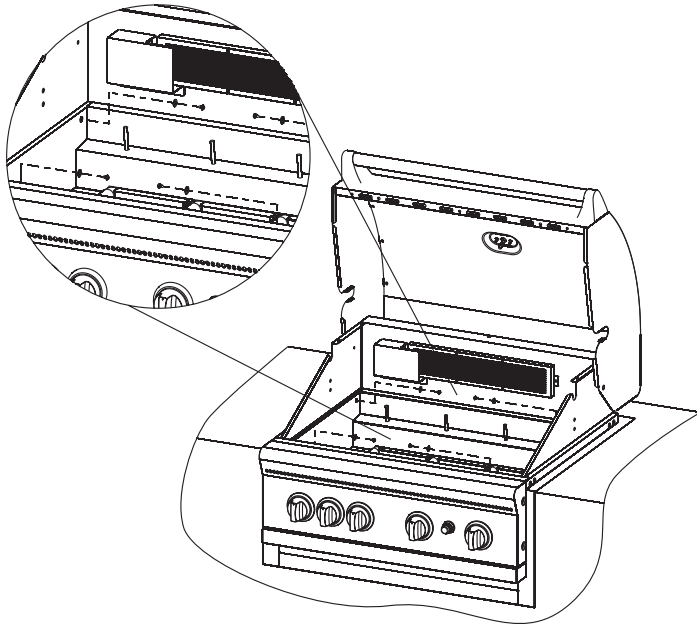

Figure 5
4. Attach grill head to surround from inside of the grill with four (4) lock washers, and 1/2" screws (provided). See Figure 5.